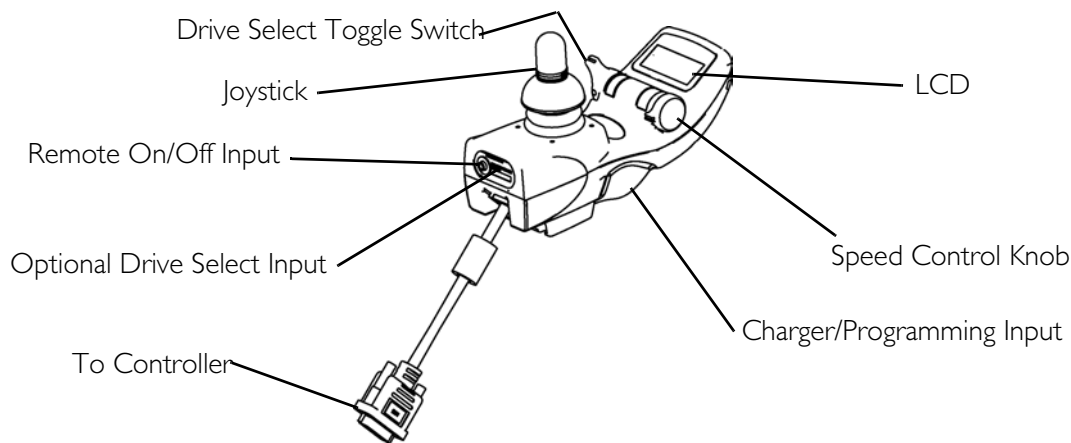
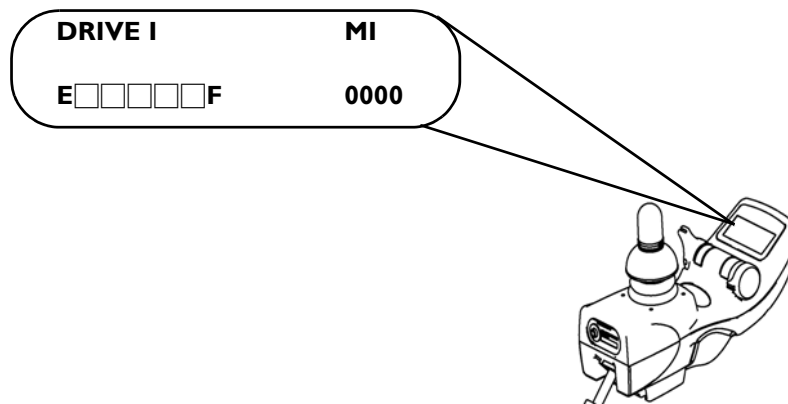

FIGURE 12.6 MPJ Joystick Switches and Indicators
FIGURE 12.7 MPJ Joystick Switches and Indicators - LCD Display
NOTE: For this procedure, refer to FIGURE 12.6 and FIGURE 12.7.
1. Rotate the knob forward to increase the speed of the wheelchair to the programmed max speed (FIGURE 12.6).
For this procedure, refer to FIGURE 12.7.
The LCD Display is located in front of the joystick and provides information on the status of the wheelchair through a 2 line by 12 character length backlit display. The LCD display is readable in both bright sunlight and complete darkness (FIGURE 12.7).
The right half of the display is the Information Center. The Information Center displays current data on the wheelchair. FIGURE 12.7 shows the factory default odometer display. The top line shows the unit of measured MI (miles). The second line is the value, 0000 (total miles driven).